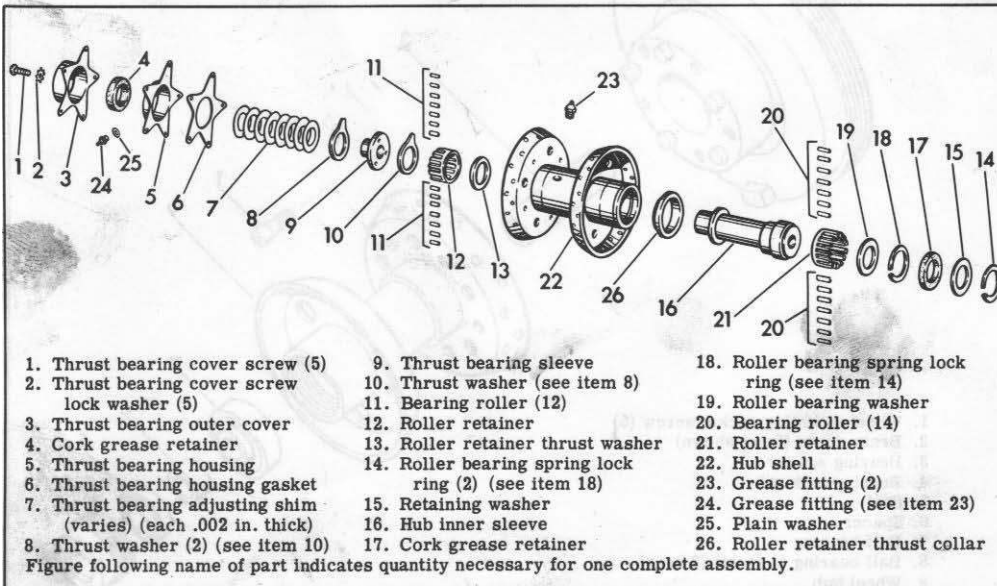

Figure 2C-3. Wheel Hub (1966 and earlier) - Exploded View
**ASSEMBLING ROLLER BEARING WHEEL HUB (Fig. 2C-3)**
**Servicing 1967 AND LATER BALL BEARING WHEEL HUB (Fig. 2C-3A)**